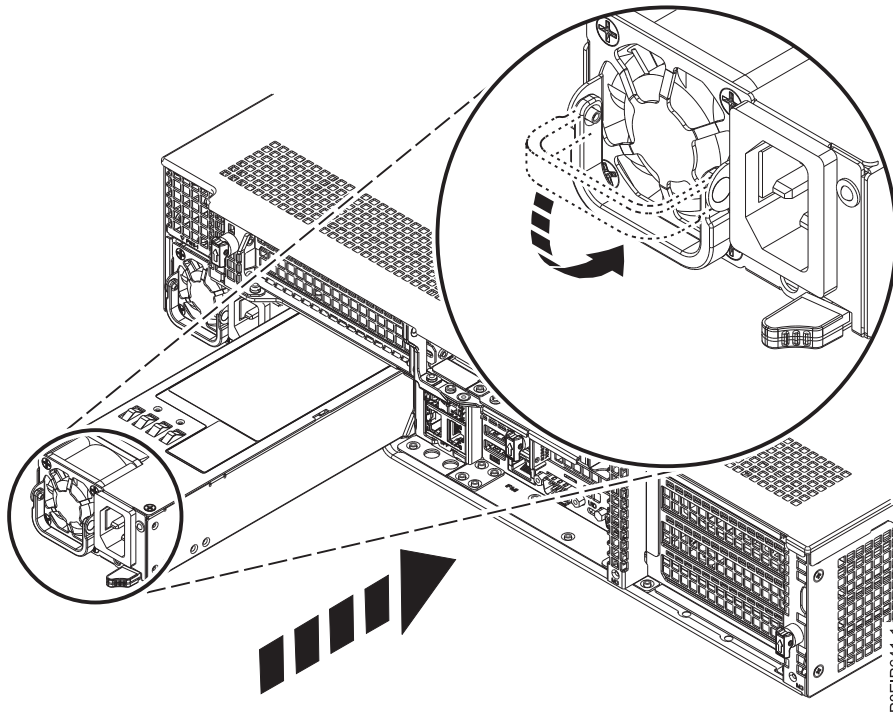

Figure 81. Replacing a power supply in the system
2. Align the power supply with the bay as shown in Figure 81. The fan is on the left; the plug is on the right. Slide the power supply into the system until the latch locks in place.